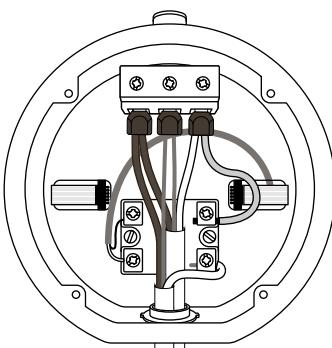

Figure 5.8
12) The final wiring connections should look as shown in Figure 5.8